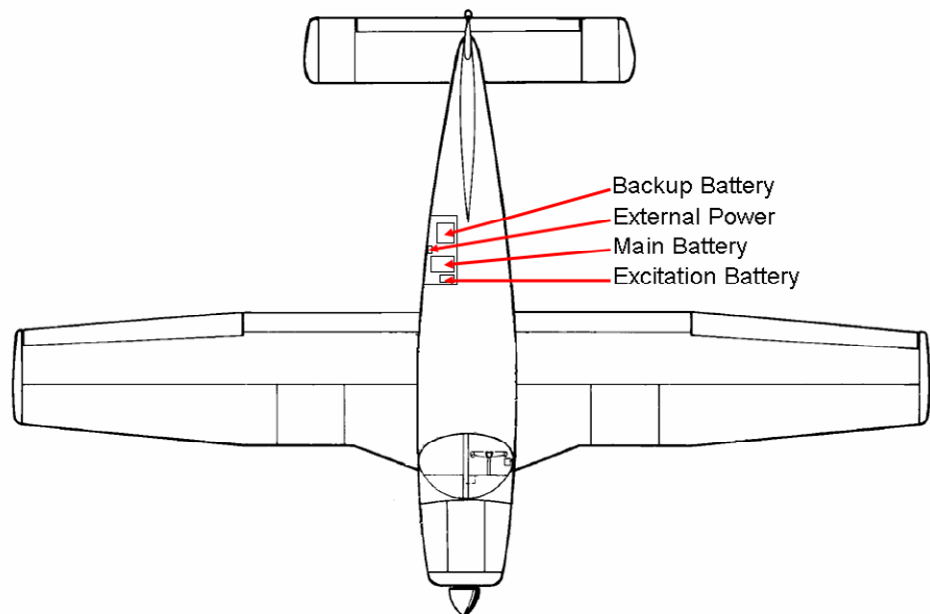

Figure 1 Position backup battery
- Use a joint connector (16) to crimp a wire of the fuse component (14, 17).
- Crimp the blade terminal (15) at the second side of the fuse component.
3. Installation of backup battery (see figure 1)
- Mount case for backup battery "BOTTOM" (2) onto the shelf battery assy or installed Thielert Battery board (in flight direction right-hand side behind the main battery). See Piper IPC or Thielert AMM-40-02.
- Drill eight holes (14V) and twelve holes (28V) into base plates of the battery case "BOTTOM" (2). The holes must be evenly arranged in 2 or 3 rows in longitudinal direction on the base plate. 4 holes per row.
- Mark the holes to be drilled by means of the battery case "BOTTOM" (2).
- Fasten battery case „BOTTOM“(2) with eight rivets (30) (14V) or twelve rivets (33) (28V).
- Install circuit breaker "CB Backup" (7) at the provided position on the battery case (3) with two screws (8), two washers (9) and two nuts (10).
- **CAUTION:** *Washers (9) need to be positioned underneath the nuts (10)!*
- Insert the battery (1x for version 14V (1)), (2x for version 28 V (1)) into the battery case „BOTTOM“ (2) and mount the battery case “TOP” (3) onto the battery (1).